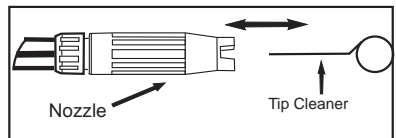

Figure 4 Insert tip cleaner in nozzle hole and move back and forth until debris is dislodged.
- Insert tip cleaner into the nozzle hole and move back and forth until debris is dislodged (see figure 4).